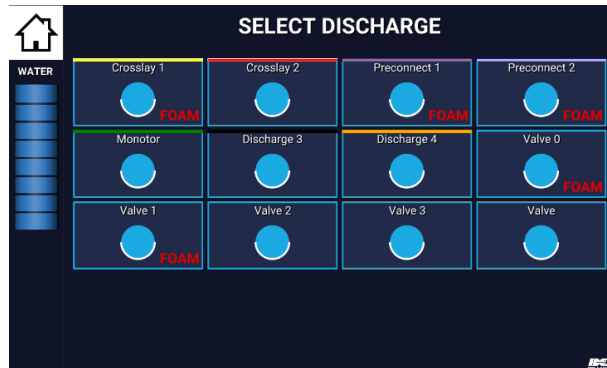

Figure 4. Selecting A Foam Capable Discharge
- A. Touch PUSH TO PUMP (or ADD LINE) target, to display SELECT DISCHARGE screen. See Figure 4.